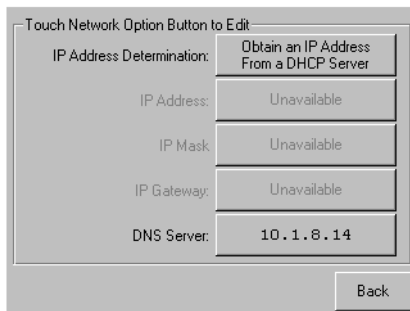
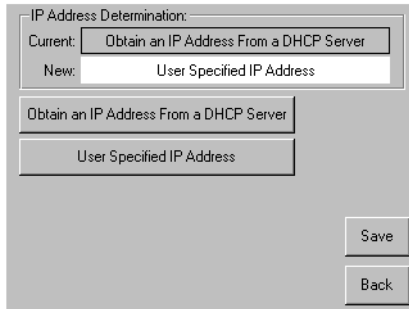

Figure 3-9. IP address determination screen
Figure 3-10. User-specified IP address screen
1. From the Menu screen, touch the Network options from the Edit Options area. The IP Address Determination screen appears (see Figure 3-9).
2. Touch the IP Address Determination option (see Figure 3-9) and then the User-Specified IP Address option (see Figure 3-10).